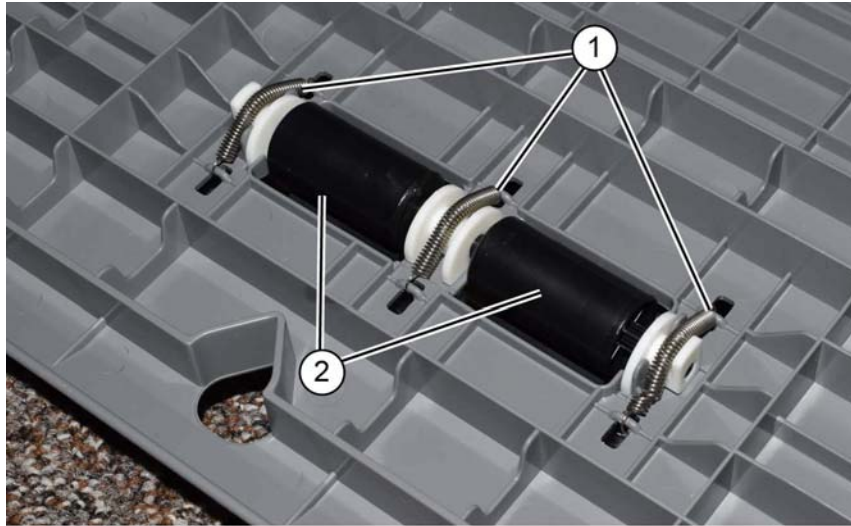

Figure 2 Nip rolls removal
3. Release the springs (1), then remove the nip rolls (2), Figure 2.